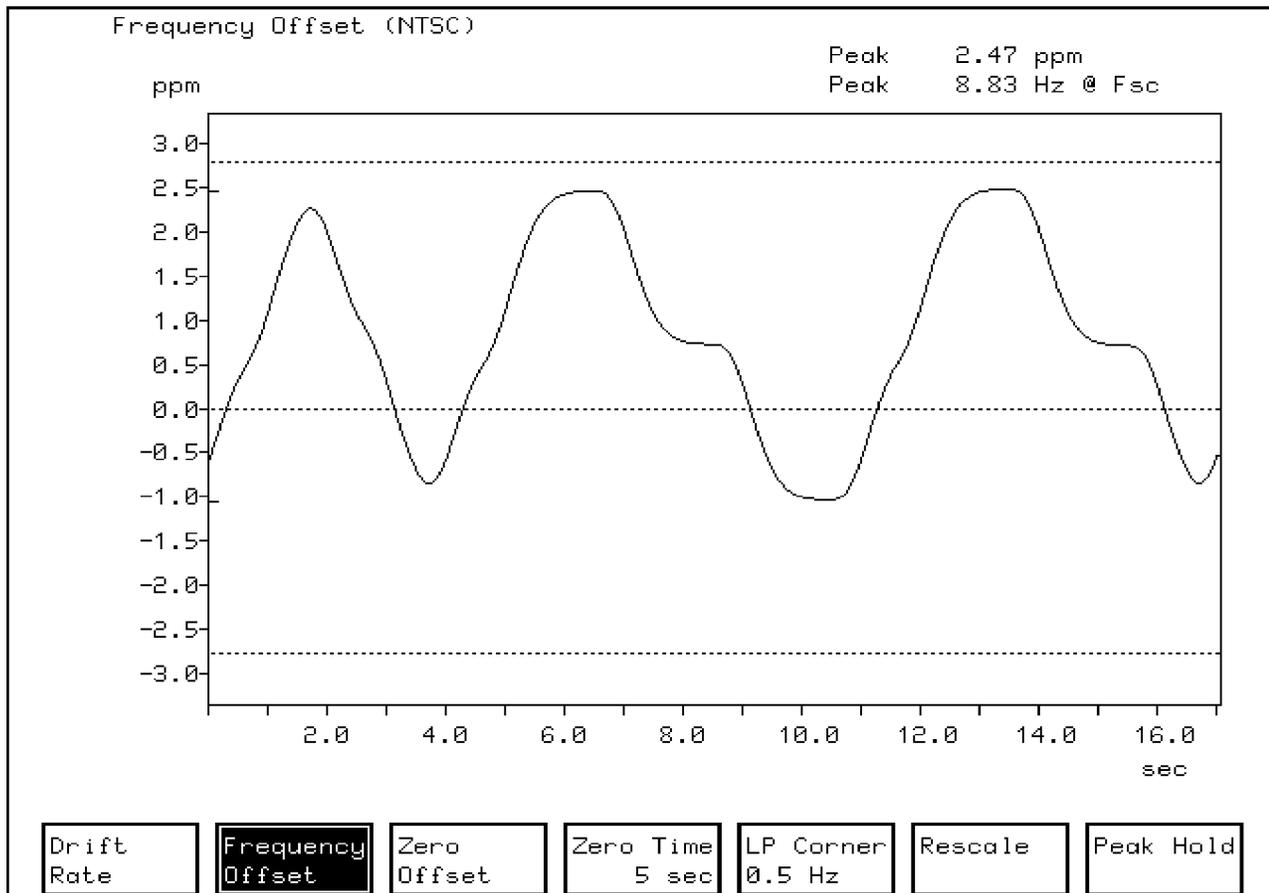

Figure 6: Frequency Offset measurement display
2. Measure the frequency offset of the video signal you want to test. Figure 6 illustrates the Frequency Offset measurement display.